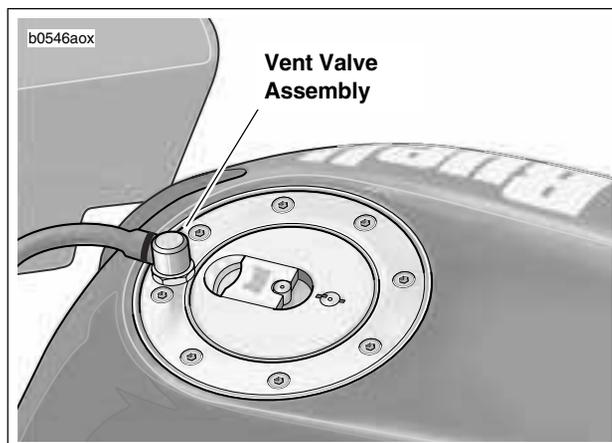

Figure 4-89. Vapor Vent Valve
5. See Figure 4-89. Disconnect hose from vapor vent valve.